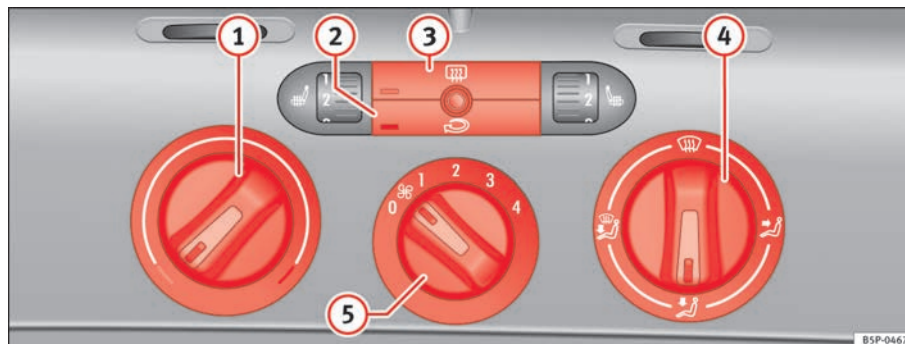

Fig. 125 On the dash panel there are the heating controls
- Using the controls ⇒ fig. 125 ① and ④ and the control ⑤ you can set the temperature, air distribution and the turbine speed.
- To switch a function on or off, press the appropriate button ② or ③. When the function is activated, the display window in the lower left of the button is lit.